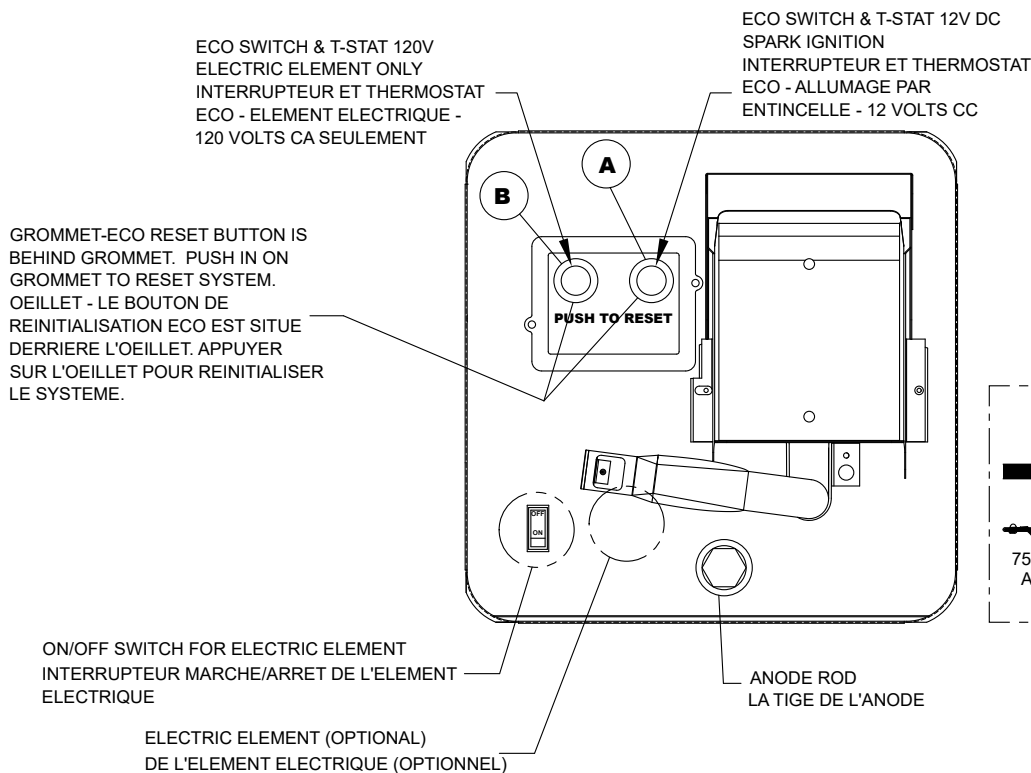

Figure 12
5. Remove anode rod from tank. The anode rod is accessible at the front of the water heater as shown in **Figure 12**.
NOTE: Water with high levels of iron and/or sulfate will increase the rate of deterioration; therefore, more frequent replacement may be required. If anode rod is mostly eaten away, replace it with a new one. (See **Figure 12**).